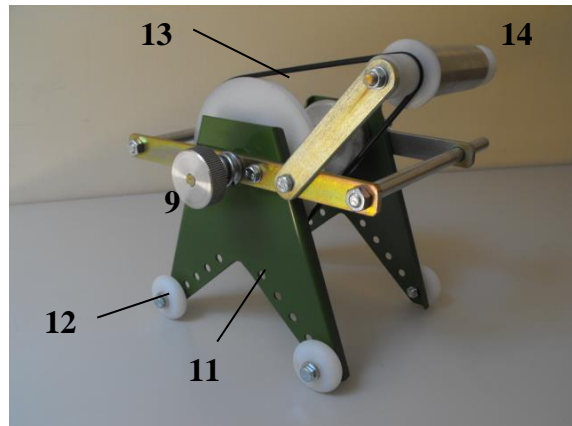
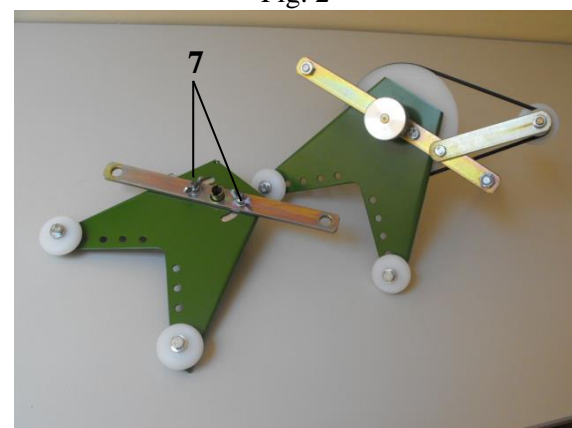
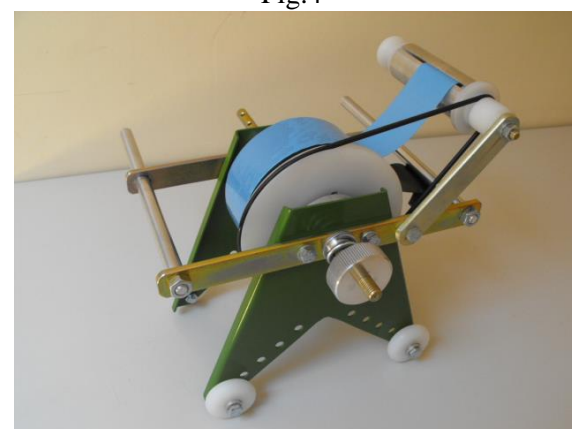

Fig. 2
Fig.4
Fig.6
1. Place the wheels (8) with screwed axle in adequate holes (11) on the outside of the wrapping frame (1) and (2), on one level in such a way that the hand wrapping machine could easily move on the pipe surface on the wheels.
2. To install the tape, remove the cotter pin (10) from the spindle (4) and remove the movable arm (2).
3. Place the roll with the tape so that the slot goes into the core of the roll (5) of the fixed part of the frame (2).
4. Assemble the movable part of the frame (2), the socket of the core of tape (5a) of the movable part (2), so that the socket also fits into the core of the tape.
5. Place the locking pin in the pin with the appropriate hole (4).
6. Pre-tension the spring-friction clutch with the knob (9) fig. 2. Turn the knob (6) to the right -
7. it will increase the belt tension, turn it to the left - decrease it. The cotter pin must be firmly seated and fix the movable part of the frame (2).
- a) loosen both wing nuts (7) - fig. 4,
- b) turn part (2) of the frame to the right or left, depending on the required width of the overlap,
- c) tighten both wing nuts (7),
- d) place the hand wrapping machine on the pipe and mark (with a pencil or a thin marker pen) the position of one of the tapes (8) on the pipe surface,
- e) make one full turn of the hand wrapping machine - keeping the rollers in constant contact with the pipe surface! Then mark the position of the previously selected tape (8) on the pipe and measure the distance between the positions of the tapes. Correct the setting as necessary by repeating the operations "a" to "e" until the required width is achieved.
9. Place the hand wrapping machine on the pipe, unwind a suitable section of the tape from the roll so that it can stick to the pipe surface on about 1/3 of the pipe circumference. Place the end of the separation pad in the roll cutout (4). Tension the spacer by turning the roller by hand. Fit the rubber strip (13) by placing it in the groove of the tape (4) - see fig. 6.
10. Pre-tension the spring friction clutch with the knob (6). Apply the tape by moving (rolling) the hand wrapping machine around the pipe. The rollers (8) must be in constant contact with the surface of the pipe. Constantly check the tape tension and if necessary adjust the clutch tension with the knob (9). Correct tension of the tape will reduce its width by 1-2%, the tape will not sway transversely and in the case of single-sided adhesive tapes, a moderate vibration noise will be produced. Inadequate tension of the tape also makes it impossible to maintain a constant overlap width.